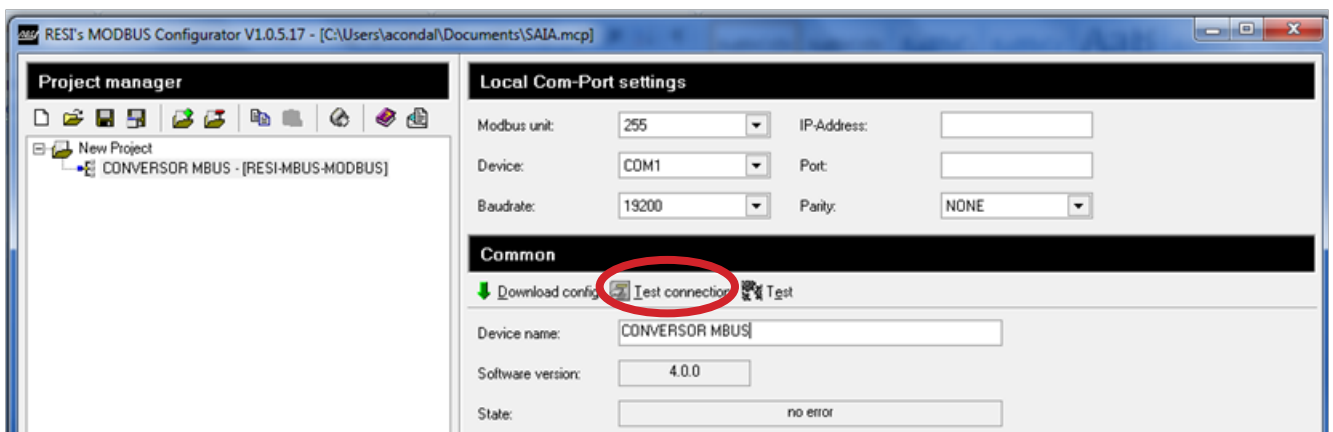

Figure 11: CMBUS configuration screen.
11.- Once the unit has been added, select it from the list of project units and configure the communication parameters (**Figure 11**).
12.- Check the connection with the **CMBUS** by clicking on “**TEST CONNECTION**” (**Figure 11**).